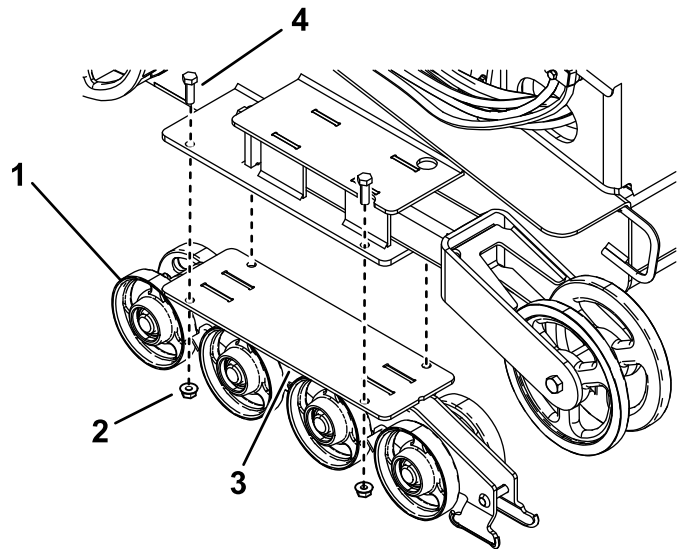

Figure 48
4. Remove the 4 bolts and nuts securing each lower track guide which contains the road wheels, and remove them (Figure 48).